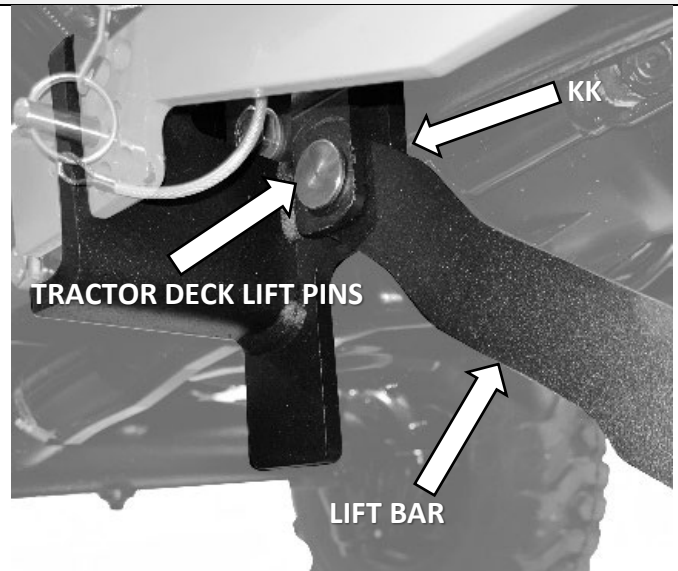

Figure 2C
2. Insert the front portion of the Lift Bar into the slot of the previously installed Tractor Deck Stop Hangers. Align the corresponding holes and secure them using the Tractor Deck Lift Pins (Figure 2C). Repeat on the opposite side.